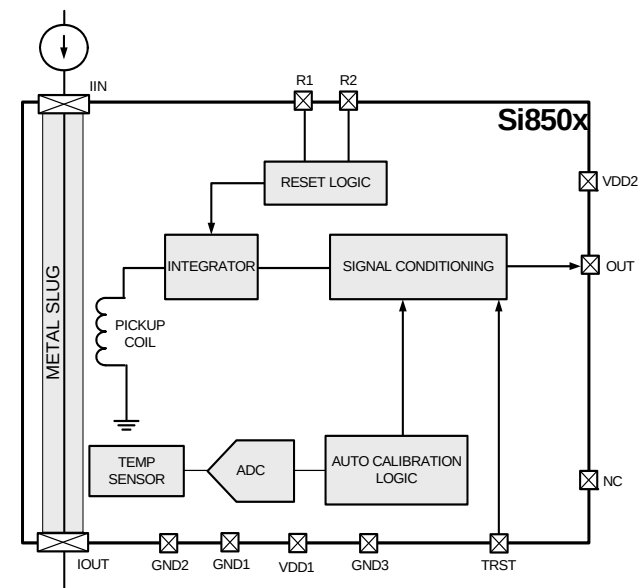

Figure 2. Si850x (Single Output) Block Diagram
The Si85xx ac current sensor family of products mimics the functionality of traditional current transformer (CT) circuits with burden resistor, diode, and output filter, but offers enhanced performance and added capabilities. These devices use inductive current sensing and on-board signal conditioning electronics to generate a 2 V full-scale output signal proportional to the ac current flowing from the IIN to the IOOUT terminals. As shown in Figures 2 and 3, current flowing through the metal package slug induces a signal in the pickup coil on the Si85xx die. This signal is applied to the input of an integrator that reconstructs the ac current flowing from IIN to IOOUT. Onboard circuitry provides cycle-by-cycle integrator reset and temperature and offset voltage compensation to achieve initial measurement accuracy to within  $\pm 5\%$ .